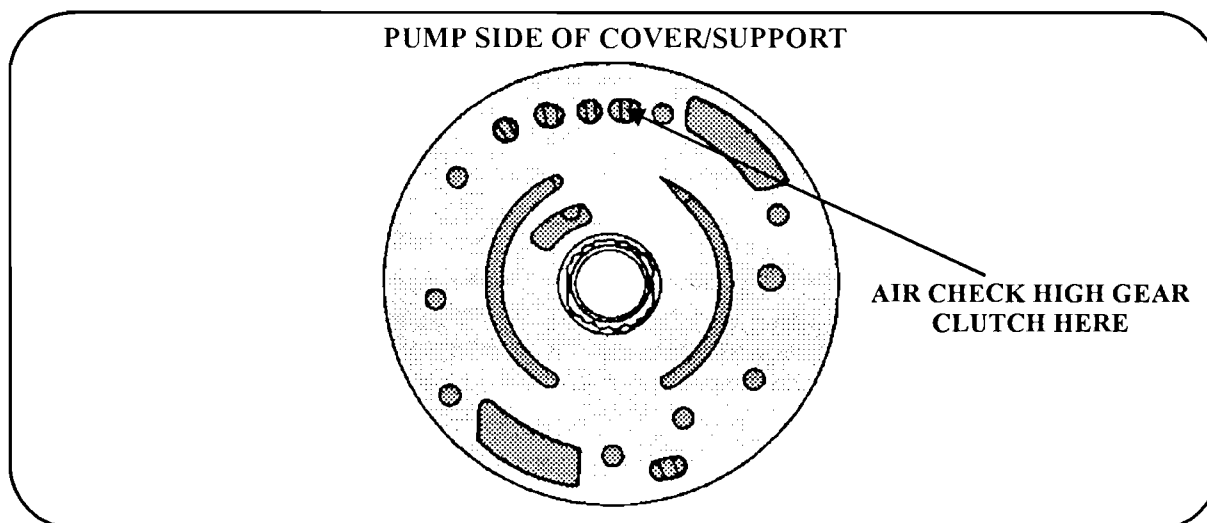

Figure 50
**CORRECTION:** With a GOOD FITTING set of sealing rings in place, install the high gear drum onto the pump cover/support. Then pour some solvent into the high gear check valve and air check the high gear drum through the high gear clutch feed passage in the pump side of the pump cover/support while checking the high gear check valve for leakage. (See figure 50)